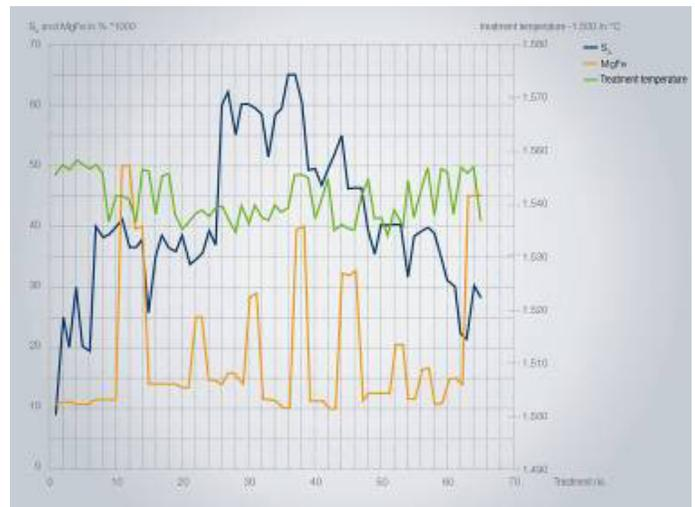

Figure 13: Result of treatment with changing initial conditions of SA and temperature
- It offers flexibility with regard to changing initial conditions such as the sulfur content, treatment temperature, and iron quantity. As shown in Figure 13, relatively constant Mg-values can be achieved despite different initial sulfur values and treatment temperatures.